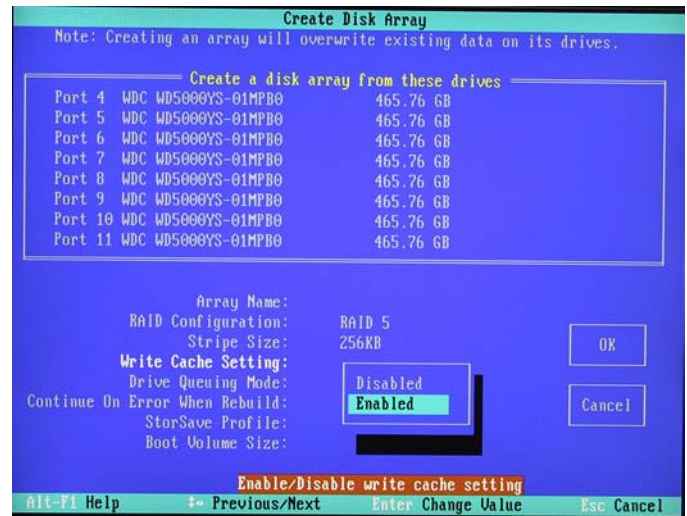

Figure 6-12
- 13) Use the up/down arrow keys to highlight the **Write Cache Setting** item, and then press the <Enter> key to access an associated pop-up dialog (Figure 6-12).